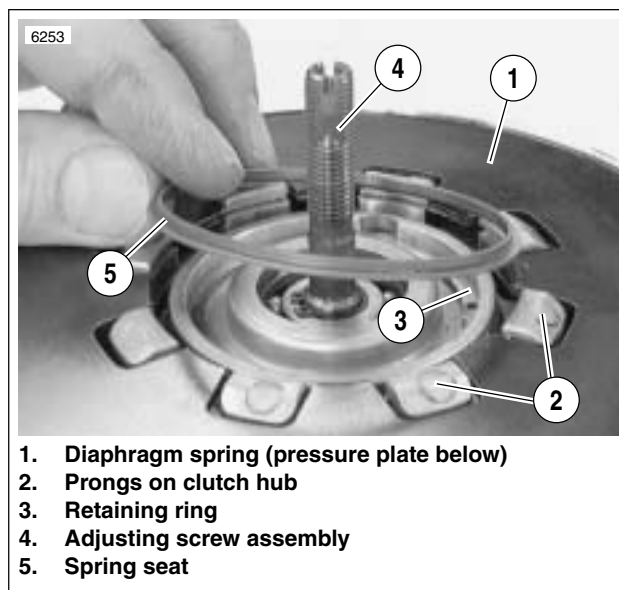

Figure 6-33. Spring Seat Installation
- a. See Figure 6-33. Align square openings of pressure plate and diaphragm spring so that the assembly can be installed over prongs on clutch hub.